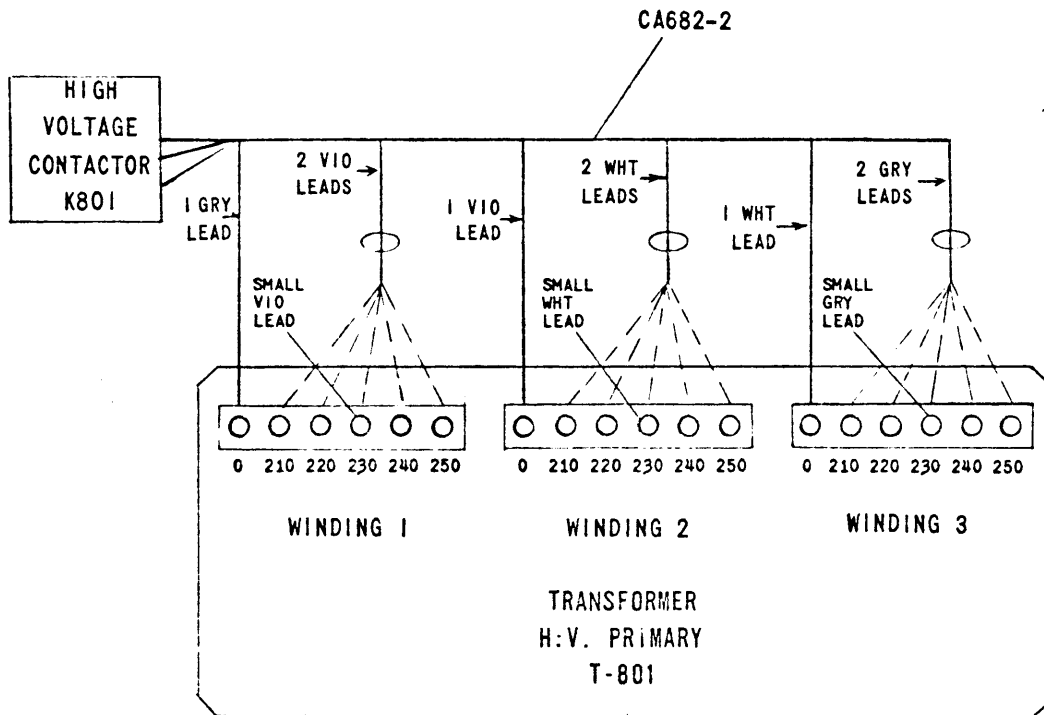

Figure 2-4. Transformer HV Primary Connections
- c. Refer to figure 5-14 and position transformer in frame accordingly. Connect transformer leads in the following manner. Refer to figure 2-4 and connect CA682-2 to transformer primary terminals. Each of the three primary sections has three heavy insulated leads that must be connected between terminal "0" and the corresponding primary a-c input voltage tap (210, 220, 230, 240, and 250). The length of each heavy lead is such that they will align with the voltage tap sections to which they must be connected.
Additionally, there are small insulated leads that must be connected to the primary sections. (See figure 2-4.) Connect: